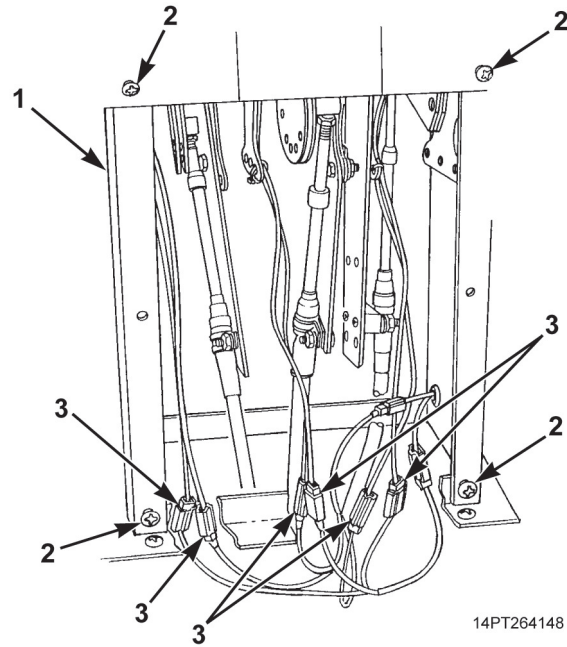

Figure 2. Connector Removal.
3. To keep shift tower (Figure 2, Item 1) rigid, reinstall two top and two bottom screws (Figure 2, Item 2) on front and rear of shift tower (Figure 2, Item 1).
4. Disconnect six connectors (Figure 2, Item 3) from shift tower jumper harness connectors.